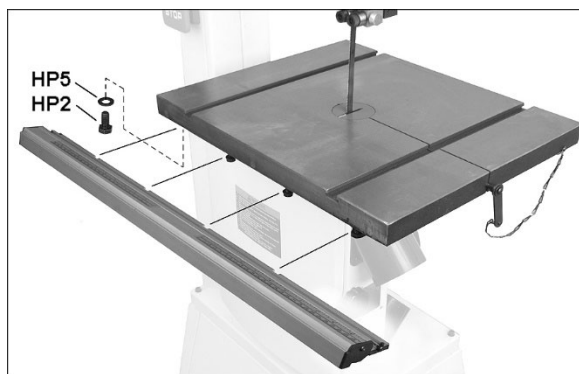

Figure 5-17
1. Partially install four hex cap screws with washers (HP2/5, Figure 5-17) into threaded holes beneath front table edge. Leave gap between table and screw head.
2. Slide fence rail onto screws and against table, as shown in Figure 5-17. Tighten screws.